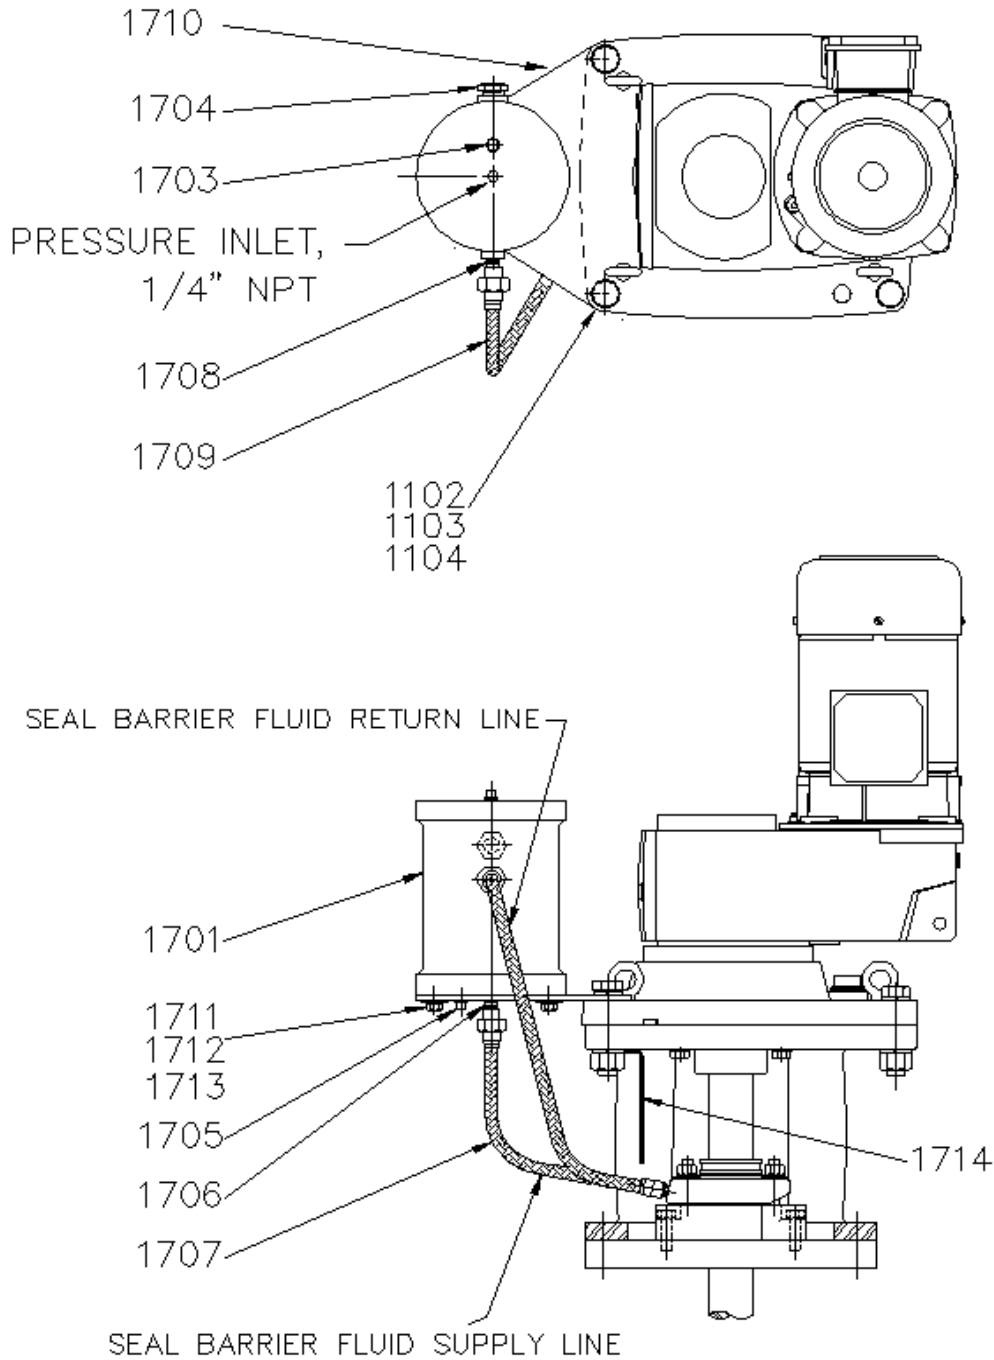

Figure 33. Mechanical Seal (Cartridge Type) Lubricator
1. Assemble the lubricator-mounting bracket [1710] to the mechanical seal lubricator [1701]. Refer to Figure 33, page 63. Install mounting bolts, flatwashers and lockwashers [1711, 1712, 1713]. Torque bolts to the value shown in the APPENDIX, Page 101.
If using a liquid barrier fluid, the unit may be supplied with an optional Chemineer mechanical seal lubricator (see Figure 33, page 63) or the mechanical seal lubricator system may be supplied by others. The Chemineer mechanical seal lubricator should be filled by removing fill plug [1703] and slowly pouring in the barrier fluid. The lubricator is self-venting while being filled.